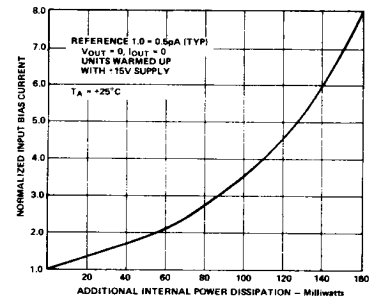

Figure 9. Input Bias Current Versus Additional Internal Power Dissipation
3. Output loading effects, which are normally ignored, can cause a significant increase in chip temperature and therefore bias current. For example, a $2\text{k}\Omega$ load driven at 10 volts at the output will cause at least an additional 25 milliwatts dissipation in the output stage (and some in other stages) over the typical 24 milliwatts, thereby at least doubling the effects of self-heating. The results of this form of additional power dissipation are demonstrated in Figure 9, which shows normalized input bias current versus additional power dissipated (it doubles every 10°C); we recommend restricting the load impedance to be at least $10\text{k}\Omega$.